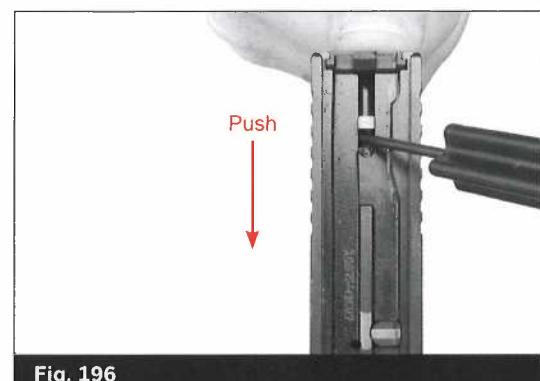

Fig. 196
- Place your thumb over the slide cover plate as you push downwards (toward the muzzle end) on the spacer sleeve. (Fig. 196/197)